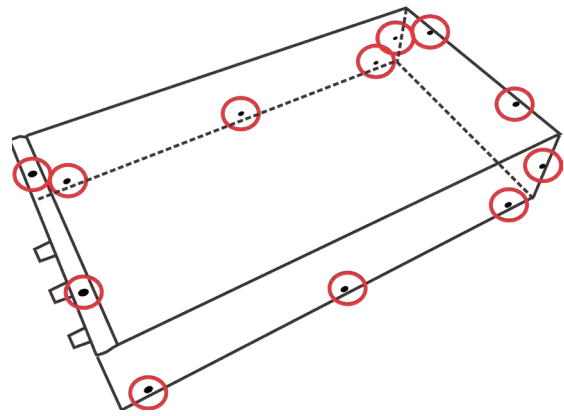

Figure 6.9 – 7114/7118 Cover Screw Locations
2. Use a #1 Phillips screwdriver to remove the Phillips-head screws, as shown in **Figures 6.9** and **6.10**.